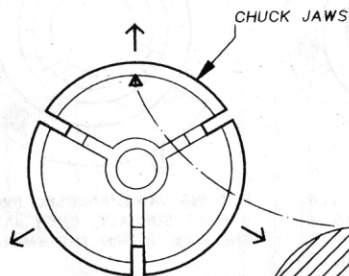
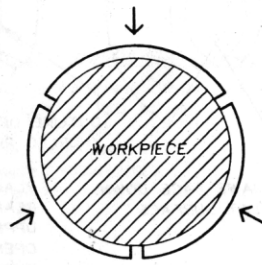

Fig.6a
Fig.6b
1. PLACE THAT PART OF THE WORKPIECE TO BE GRIPPED INTO THE JAWS AS SET OUT IN THE SEQUENCE OF DIAGRAMS (Fig.6a & Fig.6b).